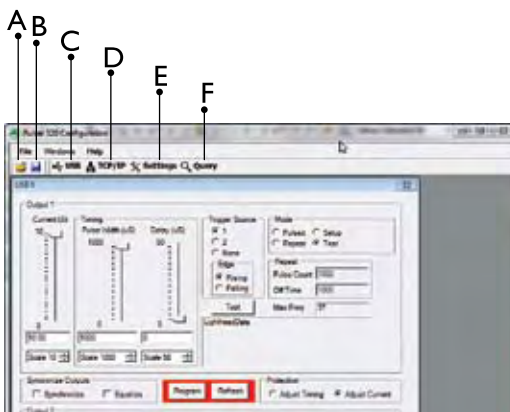

Figure 11A: GUI Dialog Window
4.4.2.2 Launch Pulsar 320 Controller user interface: To run the program; go to Start -> Programs -> Advanced illumination -> Pulsar Controller. Upon execution of the Pulsar Controller Utility program, the dialog box shown in figure 11A will appear.